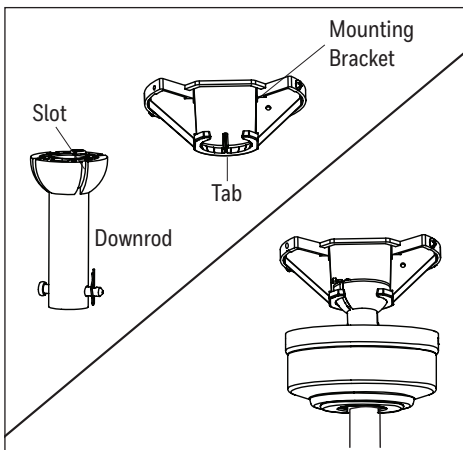

Figure 3.4
4. Install the ball end of the downrod into the opening of the mounting bracket (Figure 3.4). **WARNING:** Failure to align the slot in the ball with the tab on the mounting bracket may cause the fan to fall, which could result in injury or death.